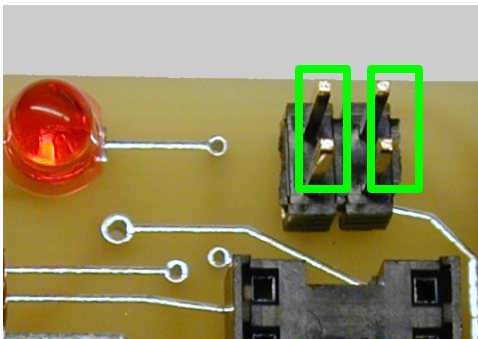

Figure 5: Jumper position for communication with PC
- a. To communicate with a PC, connect jumpers vertically as in Figure 5.